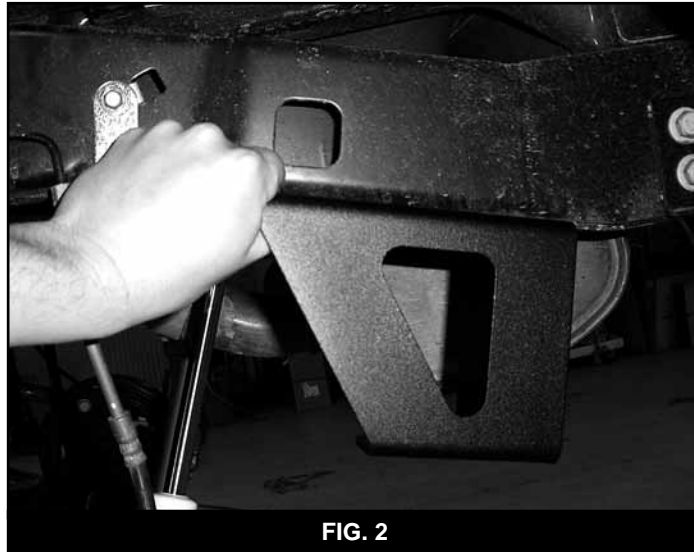

FIG. 2
7. Locate the provided drop brackets. The brackets are side specific. The flat side of the brackets face the outside of the vehicle and they will offset the sway toward the rear of the vehicle (Fig 2).